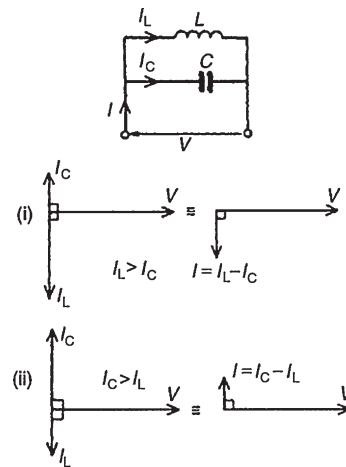

Figure 16.4
In the two-branch parallel circuit containing inductance  $L$  and capacitance  $C$  shown in Fig. 16.4,  $I_L$  lags  $V$  by  $90^\circ$  and  $I_C$  leads  $V$  by  $90^\circ$
The circuit and phasor diagrams are as shown in Fig. 16.4
and **the current lags the supply voltage  $V$  by  $90^\circ$**  (see Fig. 16.4(i))
**leading  $V$  by  $90^\circ$**  (see Fig. 16.4(ii))